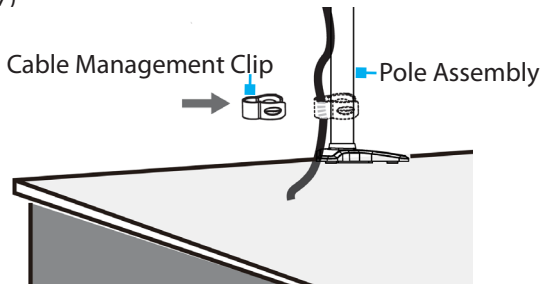

Figure 17
1. Affix the **Cable Management Clip** over the **Pole Assembly**. (Figure 17)